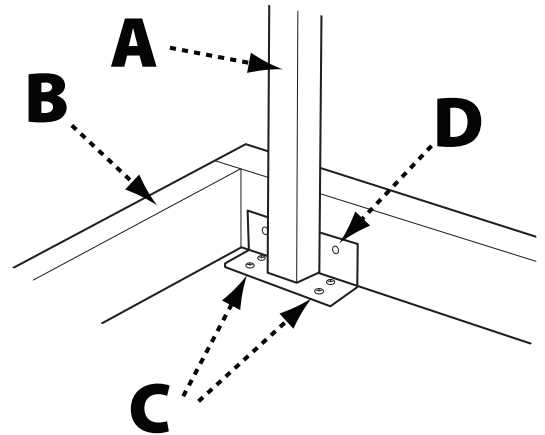

FIGURE 6
2. Position the table leg (A) in the corner of the extension table (B) as shown in Figure 6. with angle facing toward end of board.
3. Attach the table leg to the table board with four $\frac{3}{4}$ " self-tapping screws (C). Drill a $\frac{1}{4}$ " hole through the two holes in the bracket (D) and through the table skirt. Secure the leg to the table skirt using #10 pan head bolts, washers and nuts.